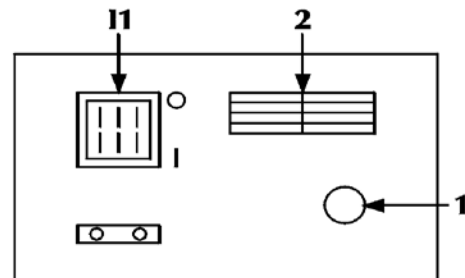

Fig.2
Comes on with the start switch (Fig.2) "I1" in position "I" and indicates that the plant is on and there is voltage.
5.2) REAR CONTROL PANEL (FIG. 2)